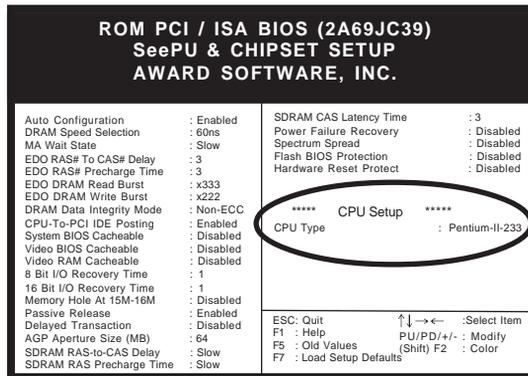

Figure 2-7
4. If you have a Pentium II processor that exceeds 300MHz, use the User Define option to set your CPU's parameters. Set the frequency ratio (also known as external clock multiplier factor) and CPU bus frequency according to your processor's specifications. See Figure 2-7.